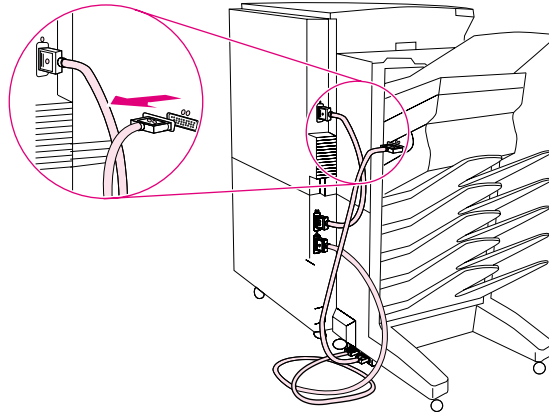

Figure 6-181 C-link Cable on Mailbox with Stapler
- 3 Disconnect the C-link cable connecting the mailbox to the stapler. See figure 6-181.